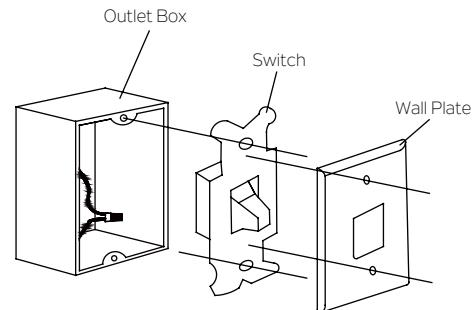

Fig. 25
**Step 1.** Remove the existing wall plate and the old switch from the wall outlet box. Wire nut the BLACK leads (hot) together and push back inside the outlet box. (Fig. 25) or select the desired location with a new wall outlet box.